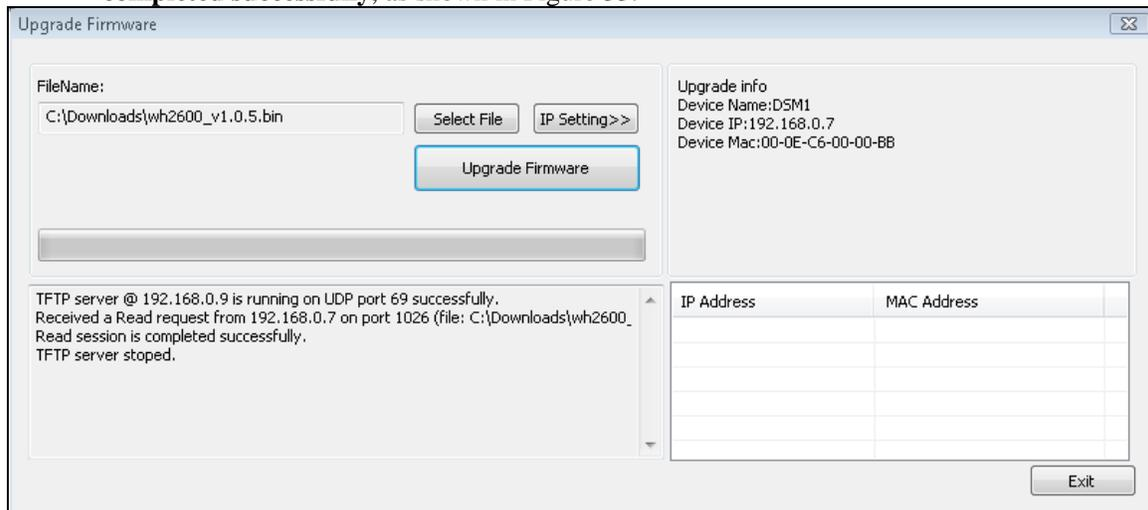

Figure 33
- Once the firmware upgrade is complete, the dialog box will display **Read session is completed successfully**, as shown in Figure 33.
<p data-bbox="613 247 1339 279">Read session is completed successfully, as shown in Figure 33.</p> <p data-bbox="570 310 1388 405">6. Wait about one minute for the ObserverIP module to reboot. You can now Exit the upgrade window, and access the module again, as referenced in Section 3.4.</p> <p data-bbox="613 436 1388 499">All of the lights should be on except the Server light (you will need to reprogram the Wunderground.com settings).</p>